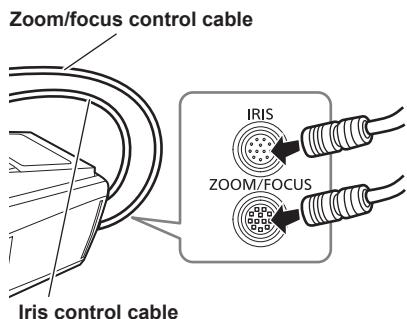

Fig. 2
- 3** Connect the iris control cable to the <IRIS> terminal. (Fig. 2)
- 4** Connect the zoom/focus control cable to the <ZOOM/FOCUS> terminal. (Fig. 2)